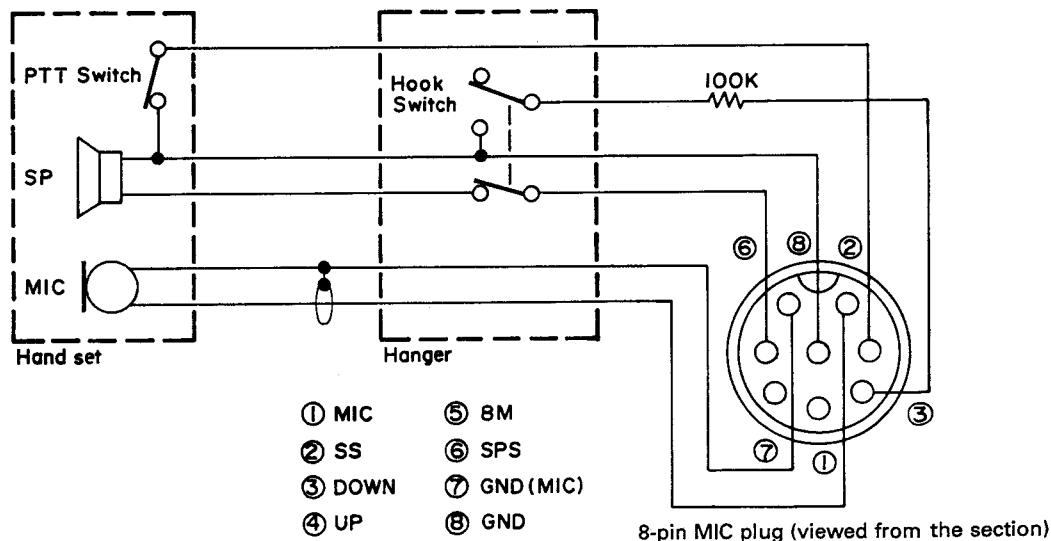
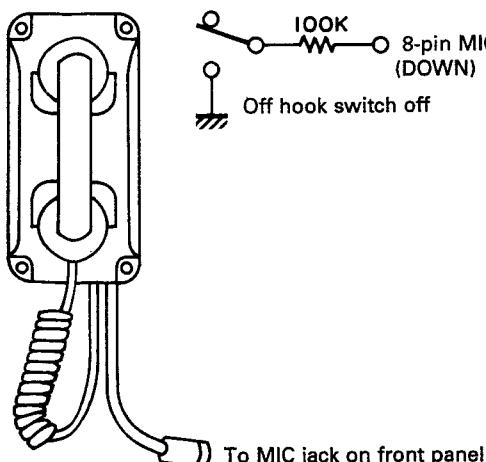

Fig. 22 Handset connection
Fig. 23 When placing handset on hanger
Connect an 8-pin MIC plug (E07-0852-15) to the handset as shown in Figure 22. Add a resistor (100 kΩ) in series to pin 3 (DOWN line). Then, connect the resistor to the off hook switch. Now when the handset is lifted, the off hook circuit is activated. The off hook switch operation is described below. (See Figures 23 and 24.)
3. When the handset is placed on a hanger as shown in Figure 23, the received tone is heard from an internal or external speaker (the SP switch is activated). The handset speaker is cut off.